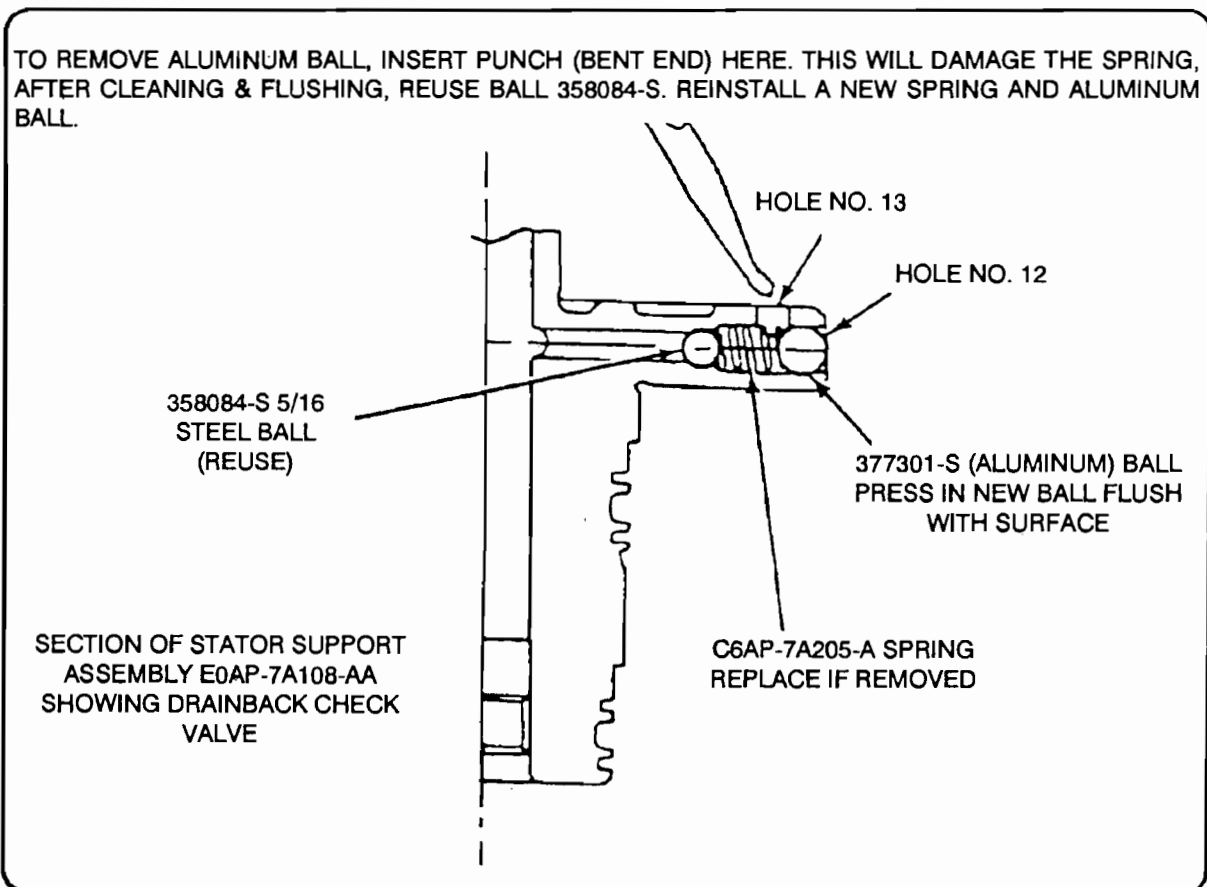

Figure 39
**CAUSE:** The cause may be the converter drain back cross hole passage in the pump stator support blocked with debris, or the checkball stuck (See Figure 39 ).
**CORRECTION:** Inspect and air check the converter drain back passage in the pump stator support, and clean as necessary. If removal of the checkball and spring assembly are necessary, refer to figure 39 for removal procedure.